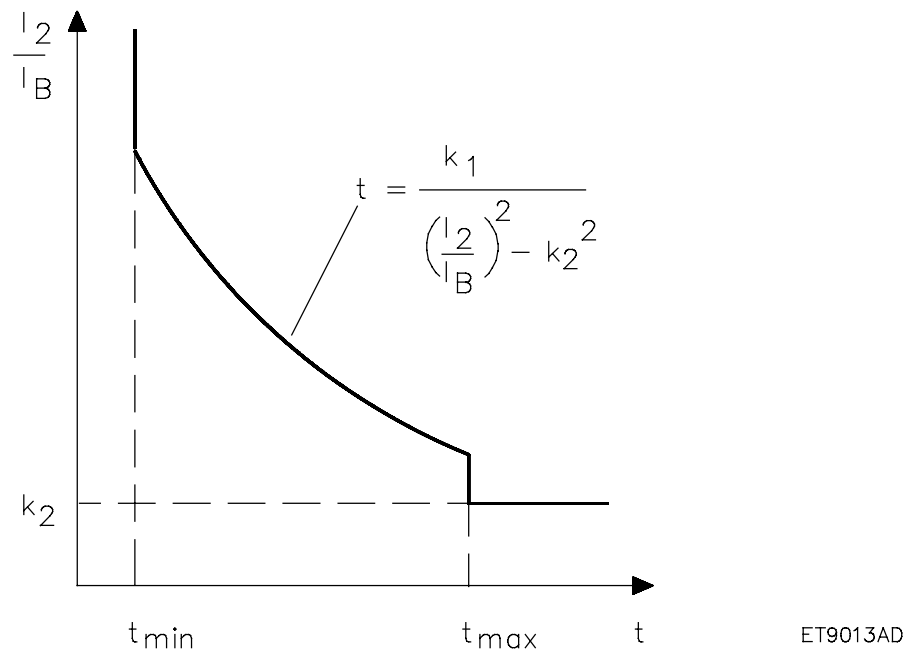

Fig. 3.5.18.1 Operating characteristic of the inverse time NPS function
- inverse time delay according to level of NPS (see Fig. 3.5.18.1)